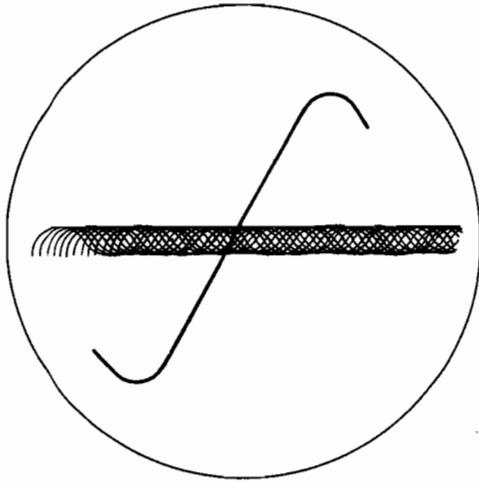

Fig. 8
- Turn the core of the output transformer T_2 on the front end so that the horizontal stripes visible in the center of the waveform in Fig. 8 are maximum in width and are located in the center of the S-shaped curve. At this time, the horizontal stripe width should be symmetrical about the center line.